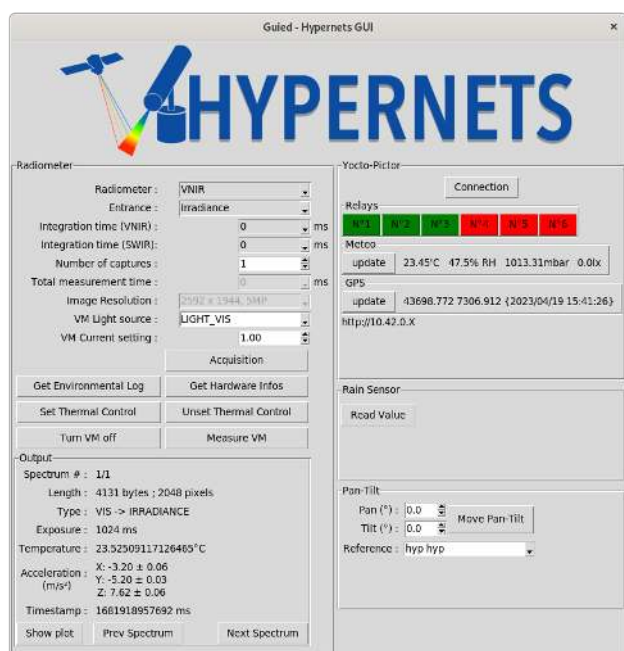

Figure 22: Graphical User Interface
- Click on *Connection* and activate the relay #2 (figure 22)
- Open the GUI and activate relay #2, and #3 (Figure 22).